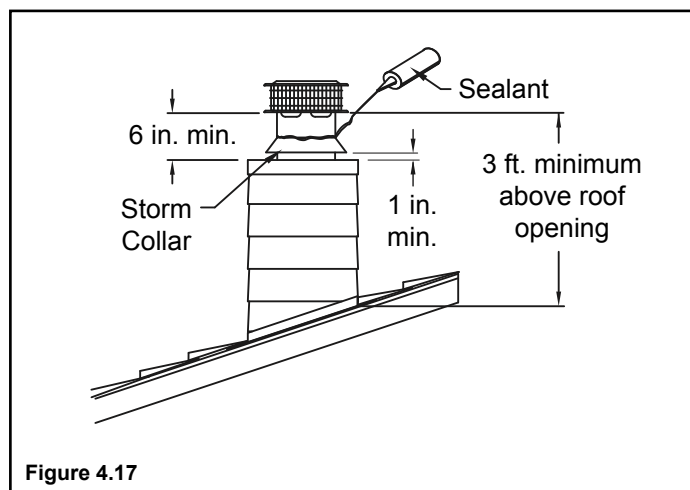

Figure 4.17
- Slide the storm collar down over the chimney to the top of the flashing. The storm collar must be installed 1 in. off the chase top flashing to provide proper ventilation (Figure 4.17).
- Apply a non-hardening waterproof sealant around the chimney at the point where the storm collar will meet the chimney just above the flashing (Figure 4.17).